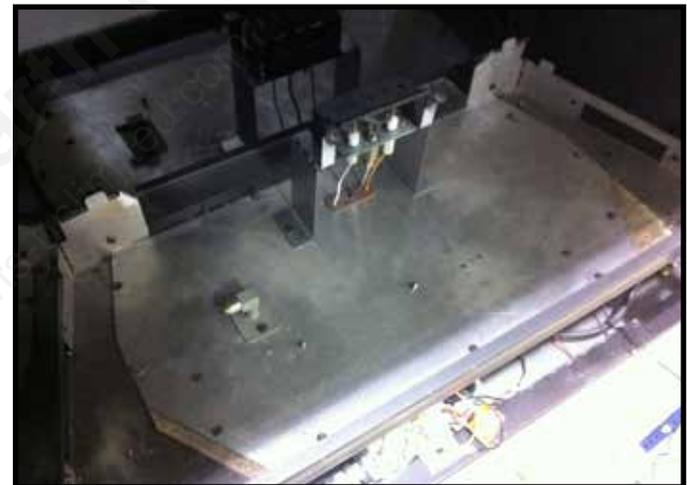
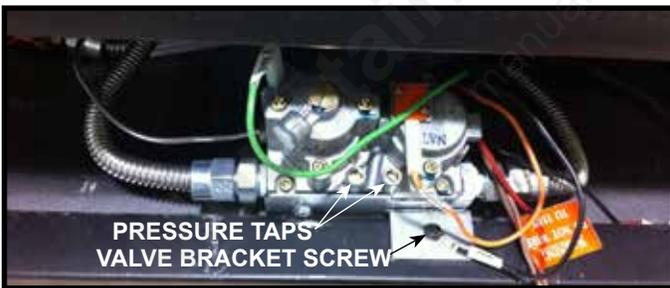

Figure 11.2. Remove Valve Plate Screws
Figure 11.5 Valve Pressure Taps and Remote Receiver Location
1. Remove eleven screws around perimeter of valve plate as well as valve bracket screw. See Figure 11.2 and Figure 11.5.
The pressure taps are accessible through the front of the appliance. The decorative mesh front and fireplace gas assembly must be removed to gain access to the pressure taps. See Figure 11.5.